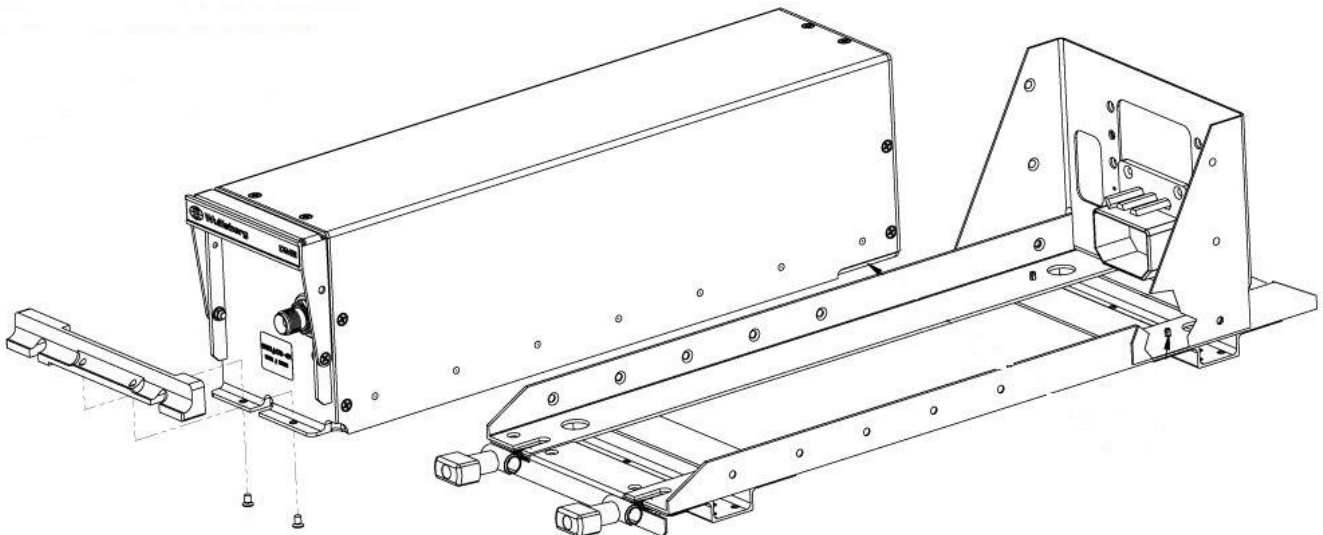

Figure 1 – Orientation of tray adapter bracket and screws
- 1. Position adapter bracket, PN 149-448014-01, onto the front flange of the CVC-151 as shown in Figure 1.